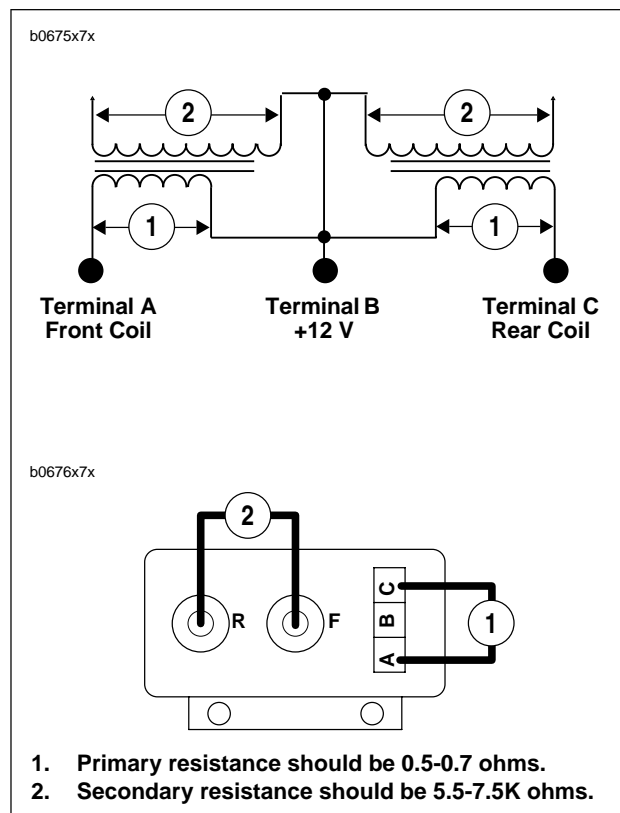

Figure 7-6. Ignition Coil Wiring Diagram
2. See Figure 7-6 Attach ignition key switch connector [33] to main wiring harness.